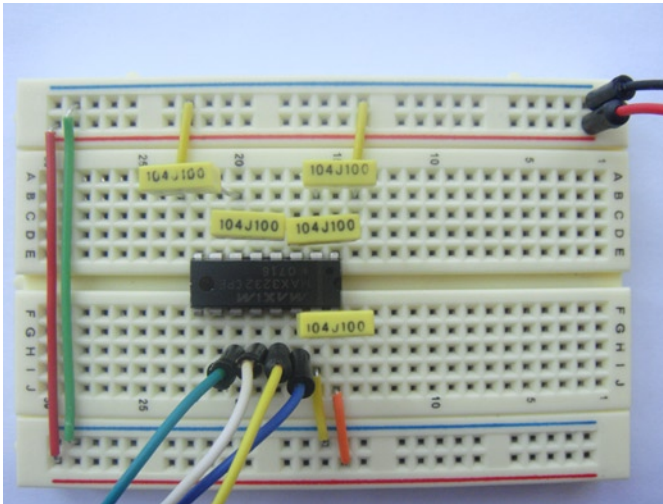

Figure 9-7. The MAX3232 circuit completed
5. For the last two connections, connect your ground rail to P1-25 and your positive rail to P1-01. When you are all done it should look like Figure 9-7.